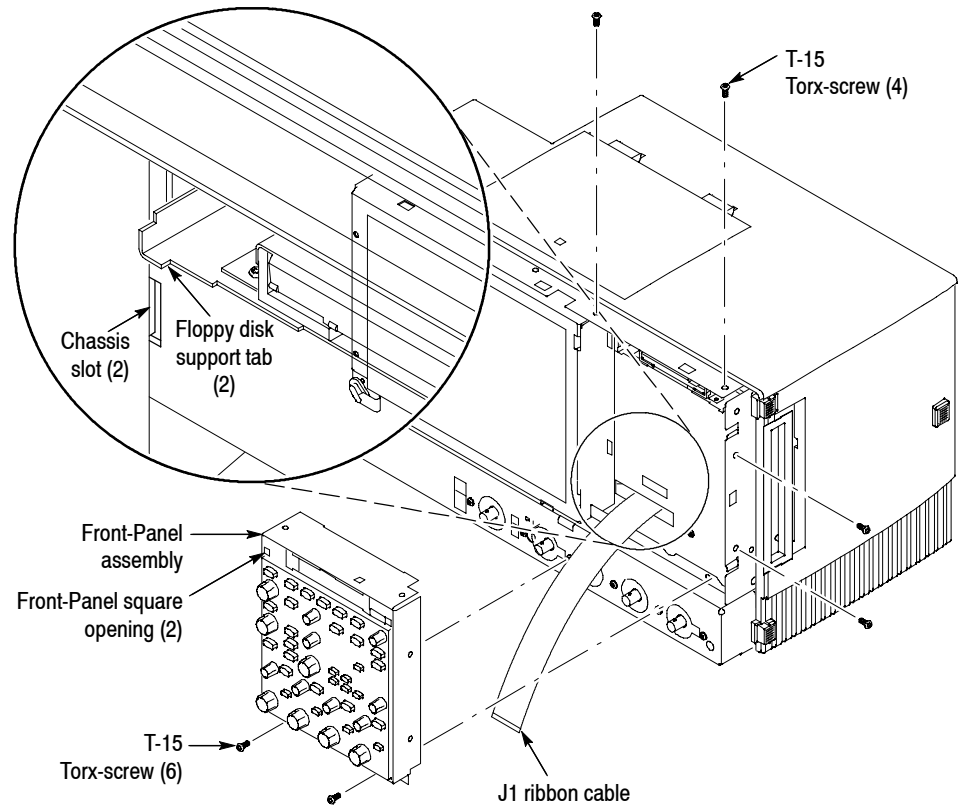

Figure 9: Front-Panel assembly removal
1. Set the oscilloscope bottom side down on the work surface and face the Front Panel toward you. See Figure 9 on page 13.
- c. Insert the two floppy disk support tabs into the Front Panel square openings. Both left Front-Panel tabs must go into the chassis slots. See Figure 9 on page 13.